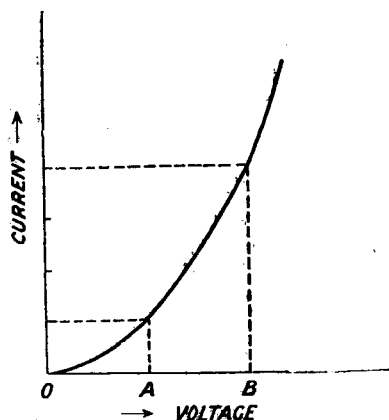
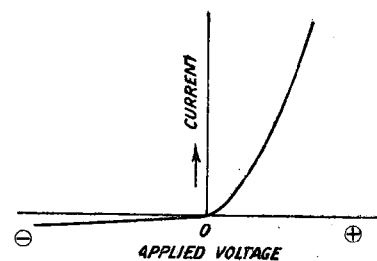

Fig. 1.—This curve clearly shows that the current output of the rectifier varies as the square of the applied voltage.
Fig. 2.—This characteristic of a crystal detector illustrates the reverse current, which is only of small magnitude.
*Figs. 2 and 3.—Illustrate why the Fig. 1 curve rounds off at the bottom.*
A representative characteristic is given in Fig. 1, which illustrates this point. It will readily
The curve shown in Fig. 1 is for a valve employing anode rectification. In consequence, all current in the negative direction is cut off, but the same reasoning applies to a crystal characteristic, as shown in Fig. 2, in which there is a certain current in the reverse direction. The resultant uni-directional current after passing through the rectifier is still found to obey a square-law, so that the detector is more sensitive to a strong signal than to a weak signal. The curve shown in Fig. 1 applies equally well to a valve
Reference to Fig. 1 will show that, above a certain value of applied voltage, the rectifier characteristic becomes very nearly a straight line, at any rate